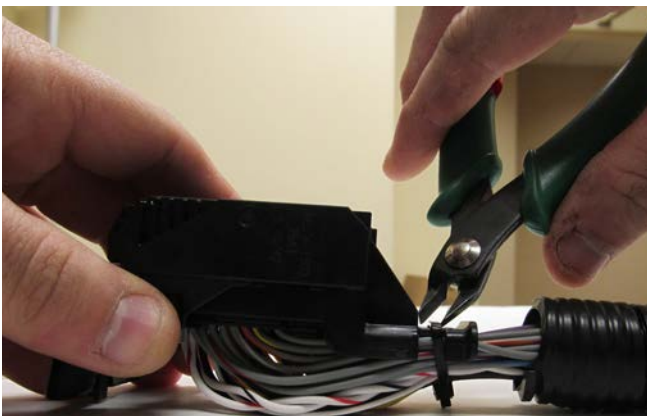

Figure 3
3. The zip-tie can now be removed from the wire bundle for easier access to the wire to be serviced. **Reference Figure 3.**